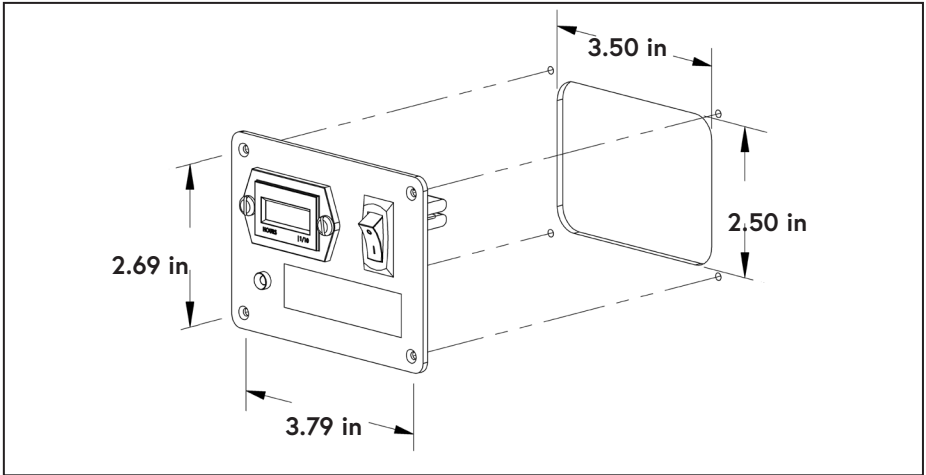

Figure 45 — Interface Panel mounting dimensions
- Install the Interface Panel in a suitable location (Figure 45).